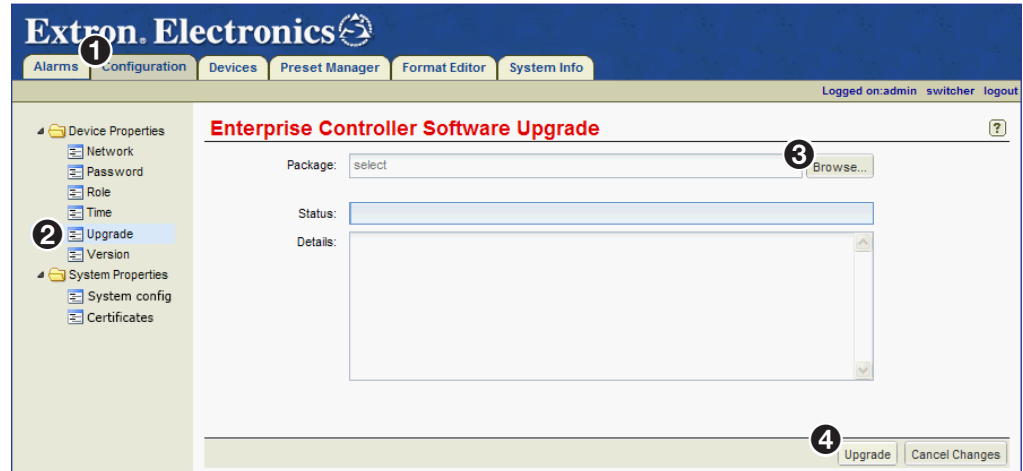

Figure 172. Configuration Page — Single EC 200
1. Click the **Configuration** tab (see figure 172, ❶).